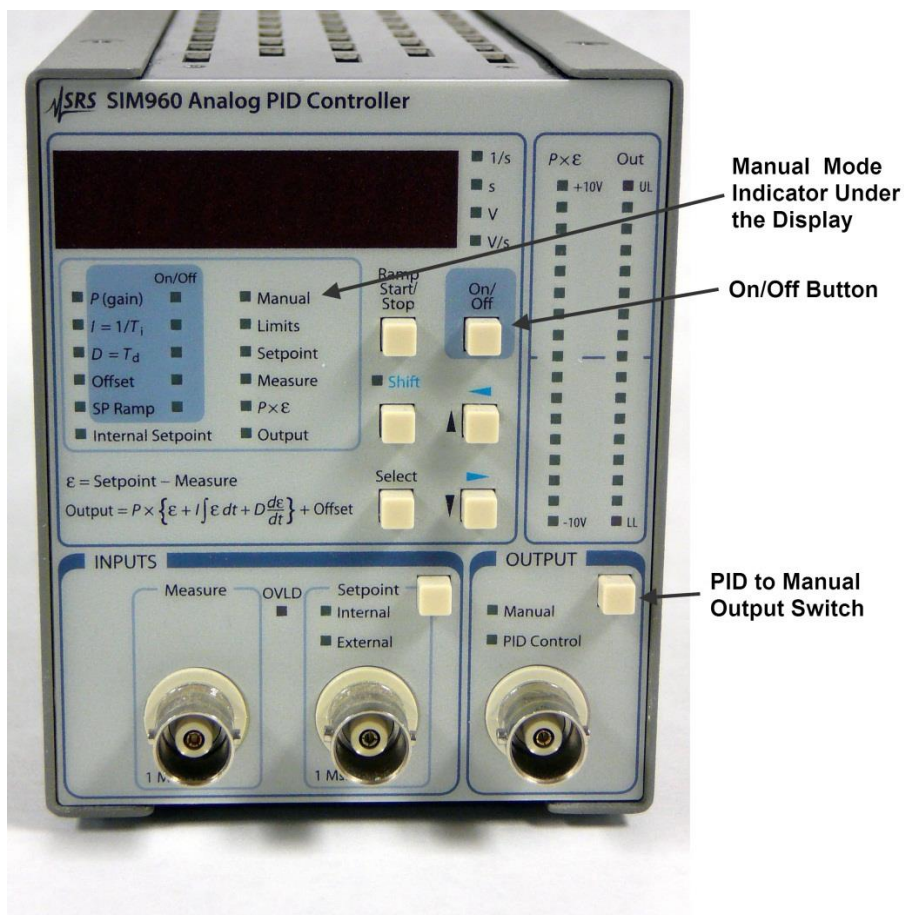

Figure 25: PID Controller Front Panel
- Switch to PID mode (Bottom-right corner of the **Output** section of the SIM960 as shown in Figure 25).
- Under the display (Not Output!), select Manual mode. See Figure 25.